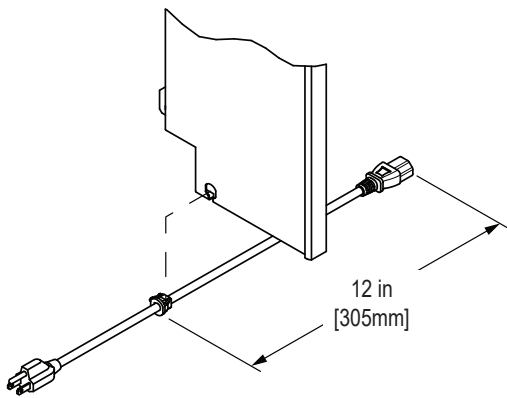

Figure 23.1
- **If power enters the appliance on the right side:** Using the pliers, attach cord restraint 12 inches from the female end of the cord and then press into the right side panel (**Figure 23.1**).